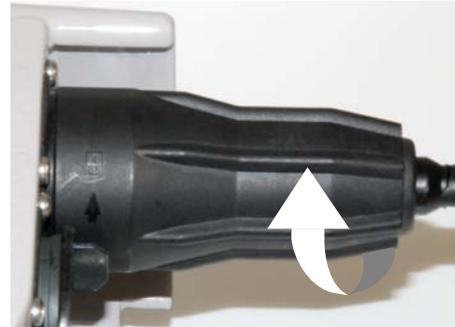

Figure 12
7. Slide the outer bayonet shell over the inner housing and turn the outer bayonet shell 1/4 turn clockwise, until it clicks into place. See Figure 12.